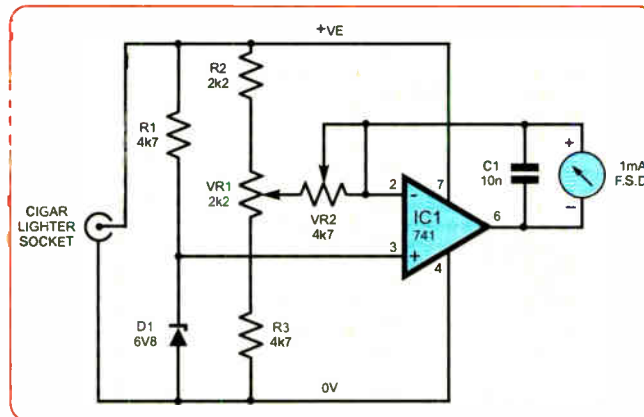

Fig.2. Circuit diagram for the 10V to 15V Battery Voltmeter
**A**FTER suffering alternator problems on my car, I decided to build a limited range meter to monitor its battery voltage from the cigar lighter socket. The circuit is shown in Fig.2.